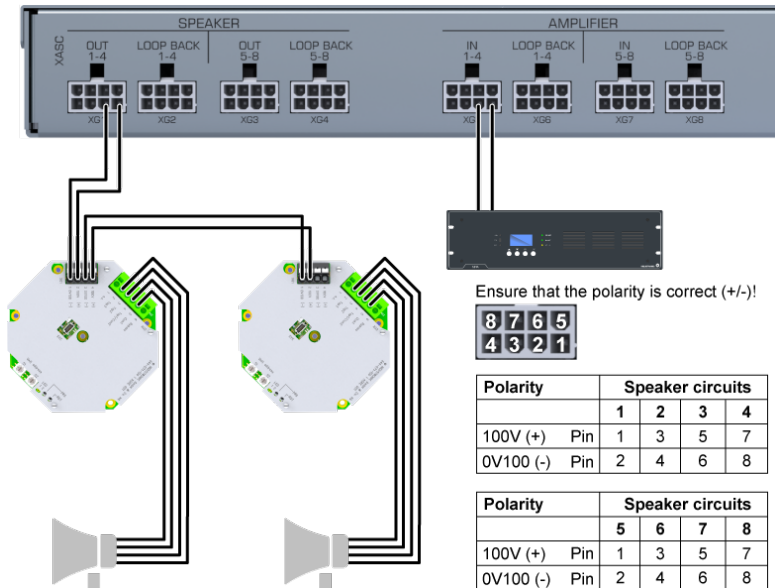
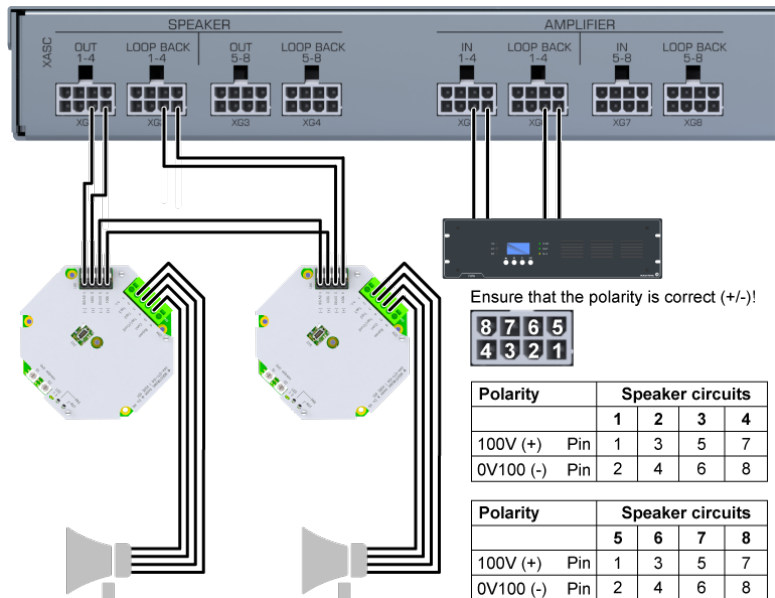

Fig. 6-1: Example for line cabling with cascaded remote electronics
Fig. 6-2: Example for loop cabling with cascaded remote electronics
2. Position the Addressable Speaker Control Module inside the rack and screw it tight (→ Fig. 6-1).
The following figures show an example for line cabling (→ Fig. 6-1) and loop cabling (→ Fig. 6-2).